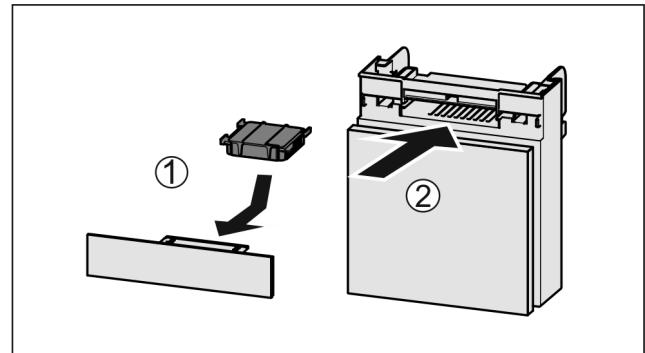

Fig. 152
- ▶ Insert the carbon filter as shown in the diagram Fig. 152 (1).
- ▶ Push the compartment in Fig. 152 (2).